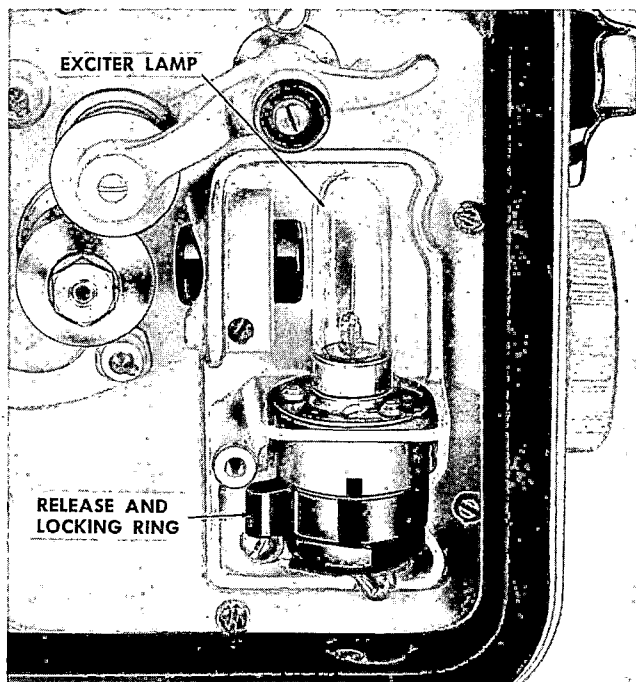

Figure 22. Sound Head Alinement Adjustments
a. This adjustment determines if the film guide adjustment roller (figure 22) is in proper lateral position in relation to the scanning beam. Thread projector with three-foot loop of buzz-track test film. The emulsion side of the film should face the exciter lamp. Operate the equipment as for regular film. Be sure the amplifier and loudspeaker are connected. Turn up the amplifier volume control about half-way. Set tone control in position marked NORMAL. Turn OFF-MOTOR-LAMP switch to the LAMP position.
b. If the position of the film guide adjustment roller is in proper lateral position in relation to the scanning beam, the low signal (300 cycle) and the high signal (1000 cycle) will (1), not be heard in the loudspeaker, or (2), there will be a faint reproduction of equal intensity from both the low signal (300 cycle) and the high signal (1000 cycle).
c. If the low signal (300 cycle) is reproduced strongly, loosen the binder head screw (2), figure 22, and turn the knurled scanning adjustment nut (3) in a counter-clockwise direction until the signal is very faint or is not heard.
d. If the high signal (1000 cycle) is reproduced strongly, loosen the binder head screw (2), figure 22, and turn the knurled scanning adjustment nut (3) in a clockwise direction until the signal is very faint or is not heard.
b. Loosen the fillister head screw (4), figure 22. Set tone control in position marked NORMAL. Turn volume (GAIN) control to an intermediate point, position marked "4". Turn the OFF-MOTOR-LAMP switch to LAMP position.